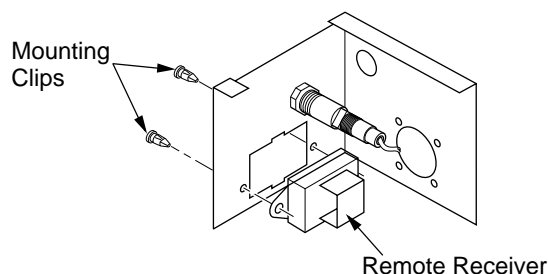

Figure 34 - Installing Remote Receiver
5. Push clips firmly into place (see Figure 34).